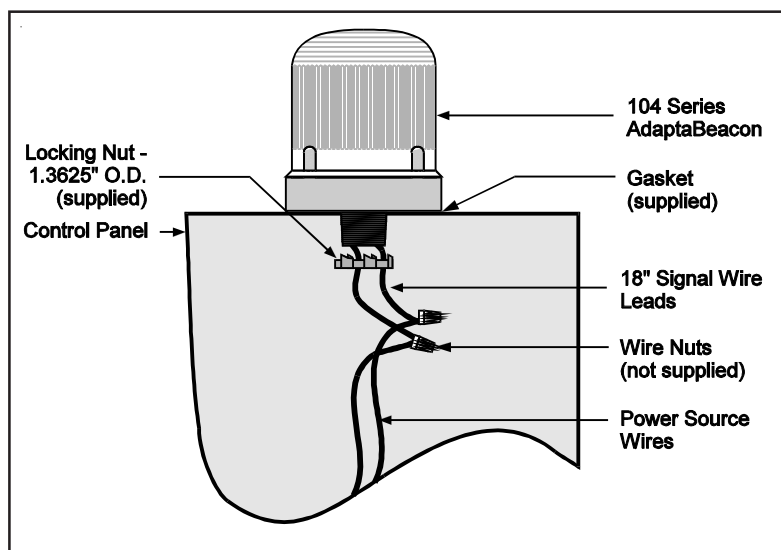

Figure 2. Panel Mounting
### Panel Mounting (Figure 2)
- a. For AC models, use wire nuts (not supplied) and connect the signal's black and white wire leads to the power source wires as shown in Figure 2. Polarity is not relevant.
- b. For DC models, connect the signal's red wire to the positive power source wire and connect the signal's black wire to the negative power source wire using wire nuts (not supplied). Polarity must be observed. Refer to Figure 2.
**Panel Mounted Modules:** Disconnect wiring and remove locking nut securing the base to the panel (Figure 2).